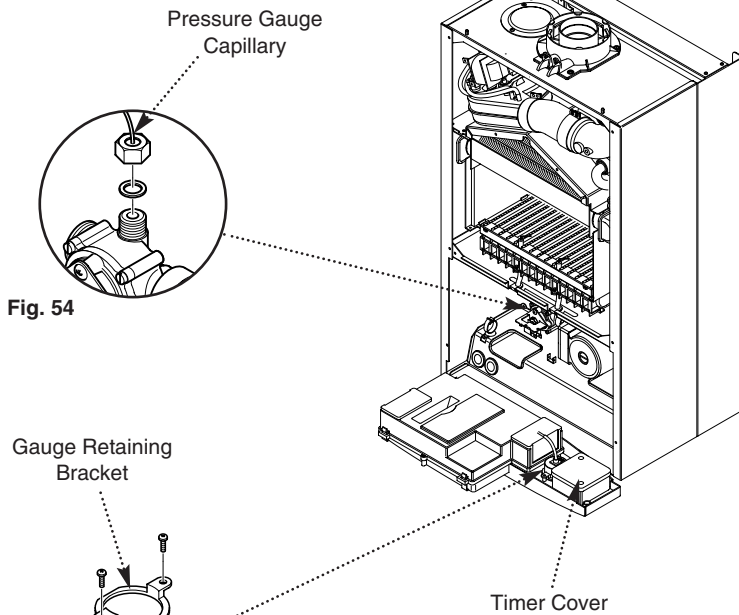

Fig. 54
12.15 Pressure Gauge (Figs. 54 & 55)